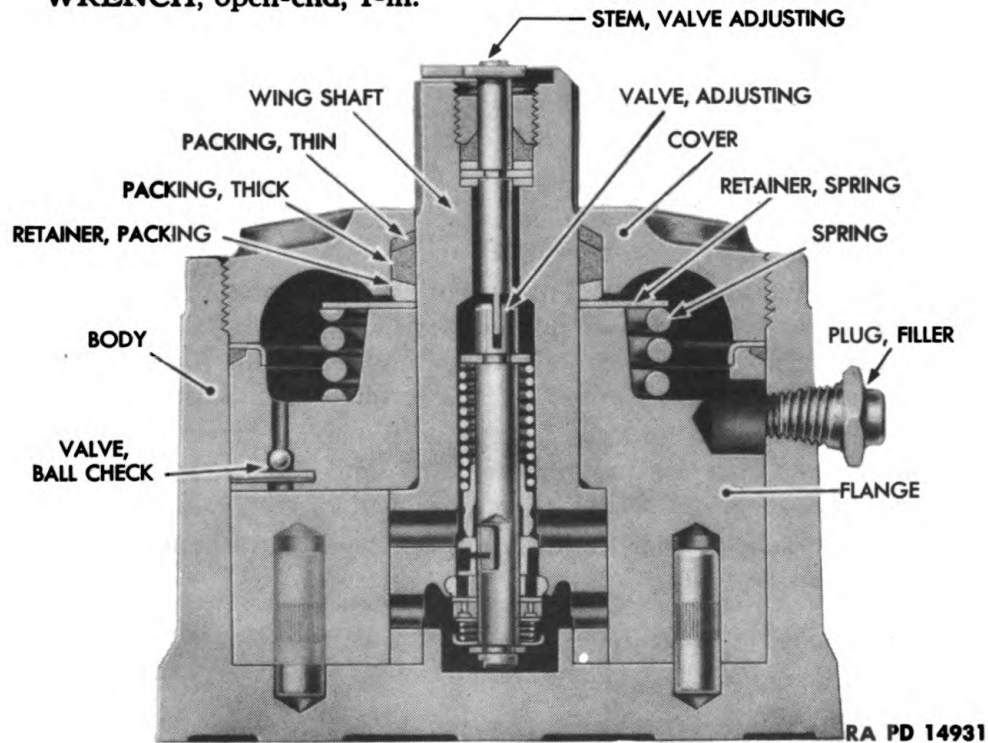

Figure 89—Shock Absorber—Cutaway View
(1) Examine level of shock absorber fluid (par. 193 **b** (1)).
(2) Drive wrecker over a bumpy road and observe action of shock absorbers. If the wrecker bottoms, it indicates that the shock absorbers need tightening. If action of front end of wrecker is too stiff, it indicates that shock absorbers need loosening.
(3) Use an adjustable wrench and turn the valve adjusting stem (fig. 89) counterclockwise to decrease stiffness of action and clockwise to increase stiffness of action.